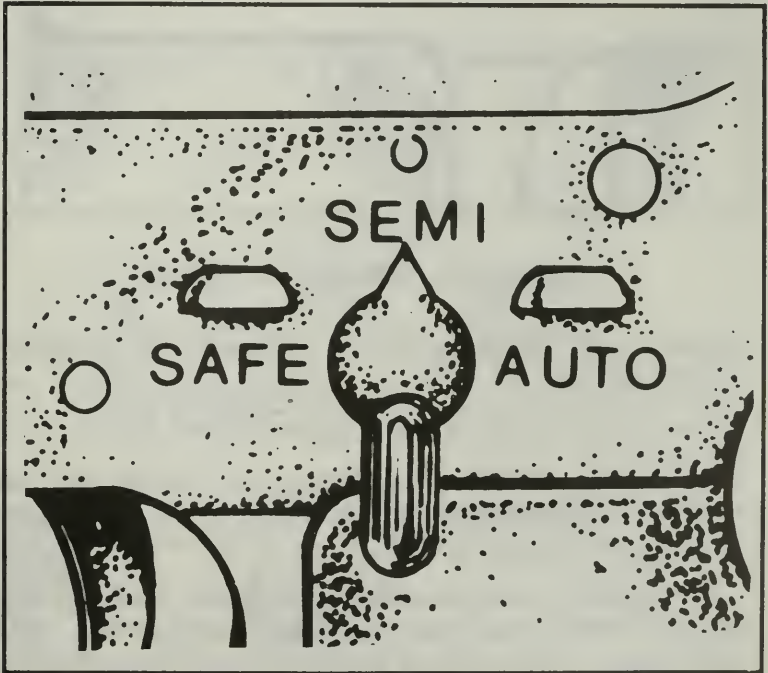

Figure 91. Selector on SEMI.
b. SEMI. Place the selector on SEMI (Figure 91). Pull the trigger and hold to the rear. The hammer should fall. Continue to hold the trigger to the rear, pull the charging handle to the rear, and release it. Release the trigger with a slow, smooth motion until the trigger is fully forward. The hammer should not fall. Pull the trigger. The hammer should fall.